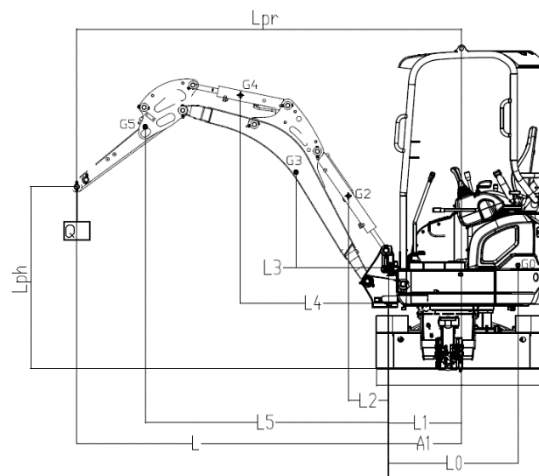

Figure 3
- o the rated lift capacity at positive side of the excavator, shown as the Figure3
- When lifting at the over-side of the excavator, the tipping point is located at the middle line of the outrigger, see the Figure 3: